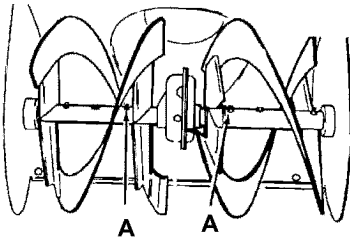

Figure 25
1. Lubricate the **Zerk fittings (A)** every ten hours with a grease gun.
2. Each time a shear bolt is replaced, the auger shaft **MUST** be greased. See Figure 25. See **To Replace Auger Shear Bolt** in the **Service and Adjustment** section.